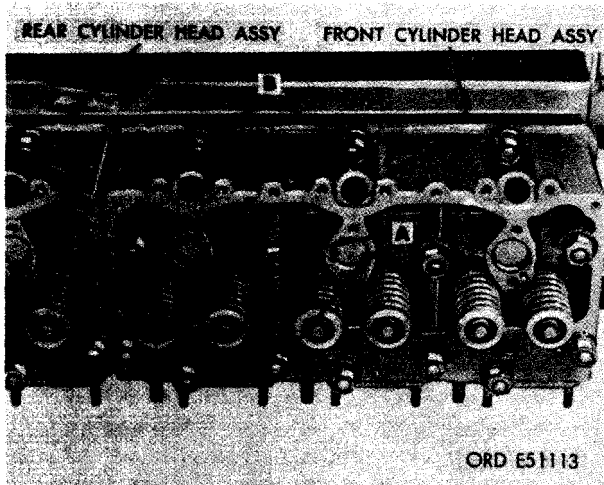

FIGURE 271. REMOVING OR INSTALLING CYLINDER HEAD ATTACHING PARTS.
- (1) Figure 271. (A) Remove eleven 9/16-inch plain nuts and 9/16 x 1/8 thk flat washers. (B) Remove three 9/16-inch plain nuts and 9/16 x 3/8 thk spacers securing front cylinder head assembly to cylinder and crankcase. (C) Repeat steps A and B to remove nuts securing rear cylinder head.